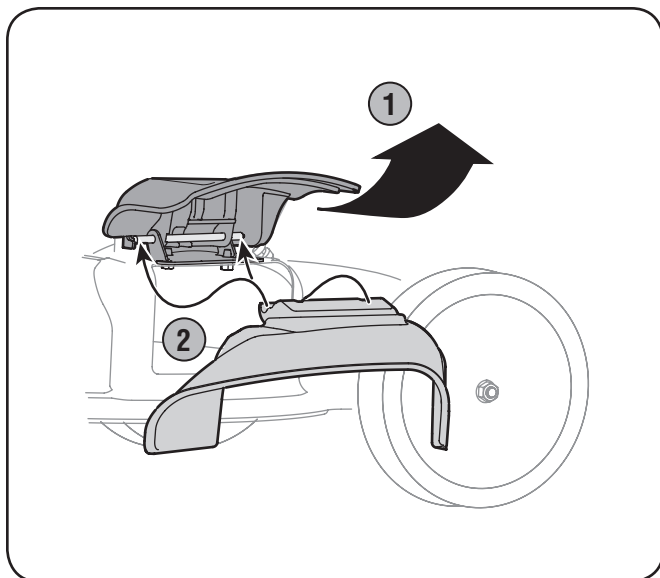

Figure 3-6
1. On the side of the mower, lift the mulching plug. See Figure 3-6.